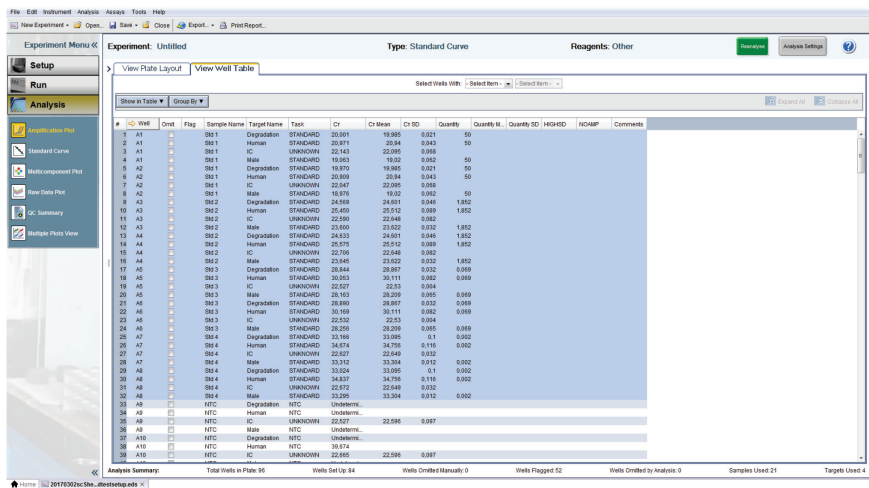

Figure 33. Unknown sample concentrations.
- View the concentrations of the unknown samples (Figure 33, next page).